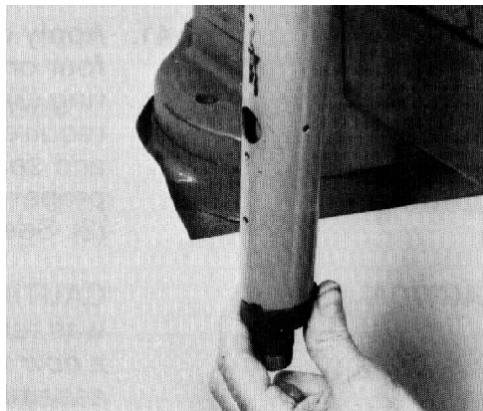

Figure 111
46. Apply a small amount of clean multi-purpose grease on the lip of the seal. Install the seal onto the jacket tube and input shaft (Fig. 111).